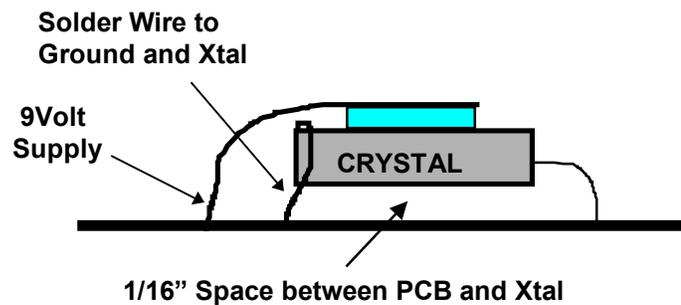
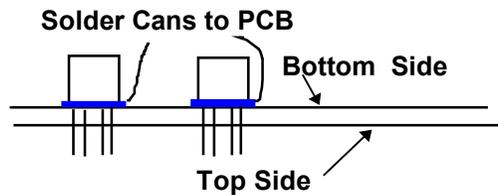

Figure 5. Thermistor Installation details.
Figure 6. Q1 and Q2 Installation.
- Install Y1. See figure 5 , but do not install the PTC-50
After the LO is working correctly, to ensure frequency stability over time, the cans of Q1 and Q2 should be soldered to the ground plane. Heat the cans and flow solder around the can. Be careful not to short Q2 to TP1 in the process. See figure 6. Now install the PTC-50 Thermistor to the Xtal as shown in figure 5. Remove one wire from the Thermistor by re-flowing the solder and then solder it to the Xtal. Do not be afraid to heat the Xtal and flow the solder to attach the Thermistor. Then attach the ground wire as shown. Be sure to leave a 1/16" space between the circuit board and the Xtal. Allow the LO to operate for 1 hour with the Thermistor in place before adjusting the final frequency. This should be enough time for Aging.